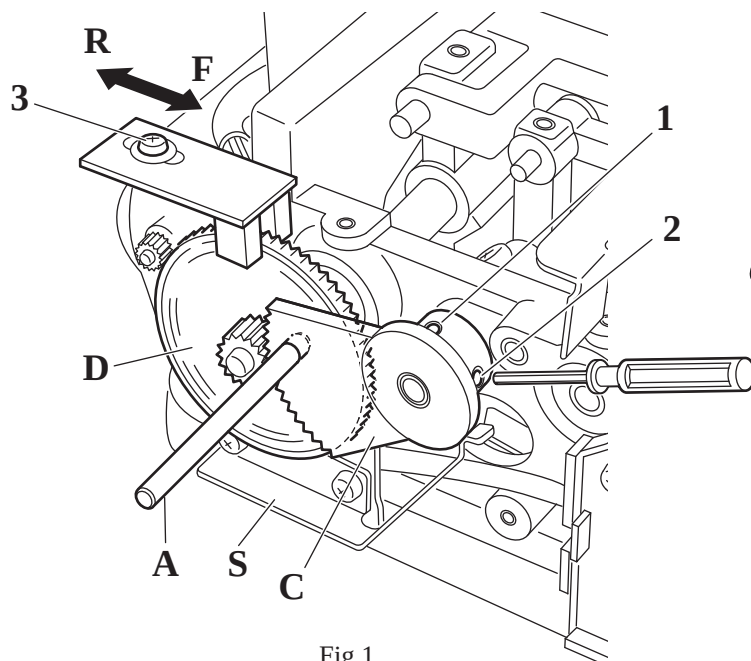

Fig.1
2. Insert Gauge pin **"A"** (No.11685) into two holes on the both gears **"C "** and **"D"** of D.F. stepping motor. (Fig.1)
4. Tighten set screws **"1"** and **"2"** of the gear **"C"** . (Fig.1)
5. Secure the indication of stitch length number as **"4"** and D.F. as **"1"** on the LCD-display and perform its work test. If the feed length of front feed dog is larger than the same of the rear feed dog, loosen screw **"3"** and adjust the set position of the sensor in the direction of **"R"** , so that the both feed dogs have a equal feed length. (Fig.1)
6. On the contrary, if the feed length of the front feed dog is shorter, loosen the screw **"3"** and adjust the set position of the sensor in the direction of **"F"** . (Fig.1)